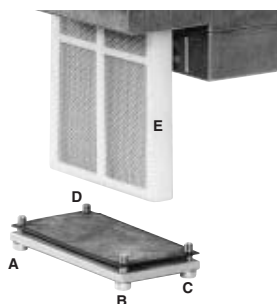

Fig. 29
- 2 Remove screws 1 ÷ 6 (Fig. 29).